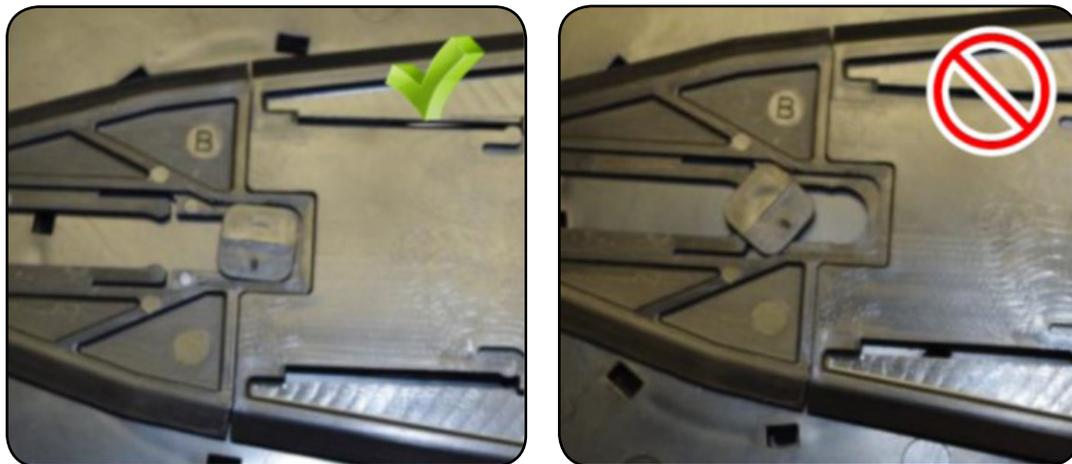

Figure 6
7. Reinsert the Drop Wheel into the mounting bracket. Make sure that the slide is properly aligned when reinserting the drop wheel (Figure 6).